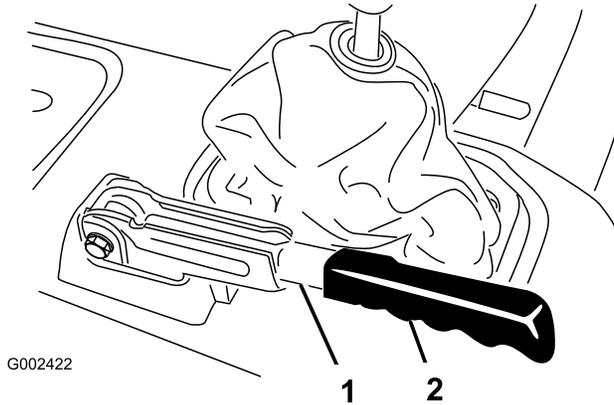

Figure 53
1. Remove the rubber grip from the parking brake lever (Figure 53).